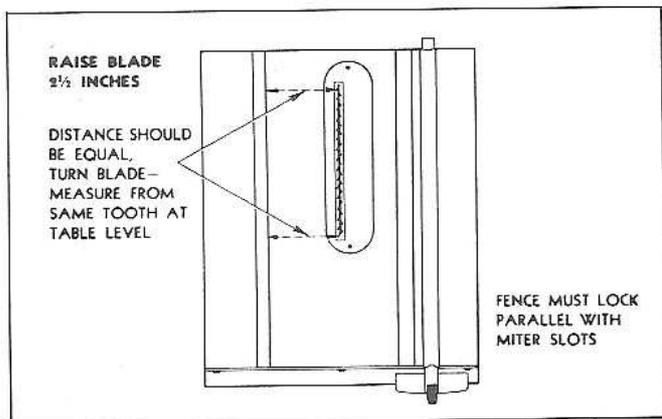

FIGURE 4
Install in opening provided in table top. See Fig. 4.
The Blade Must Be Parallel with the Miter Slots in the Table to Get a Straight Cut. (See Fig. 4).
2. Measure **accurately** from a raker tooth on the blade to an edge of either miter slot, as explained and shown in Fig. 4.